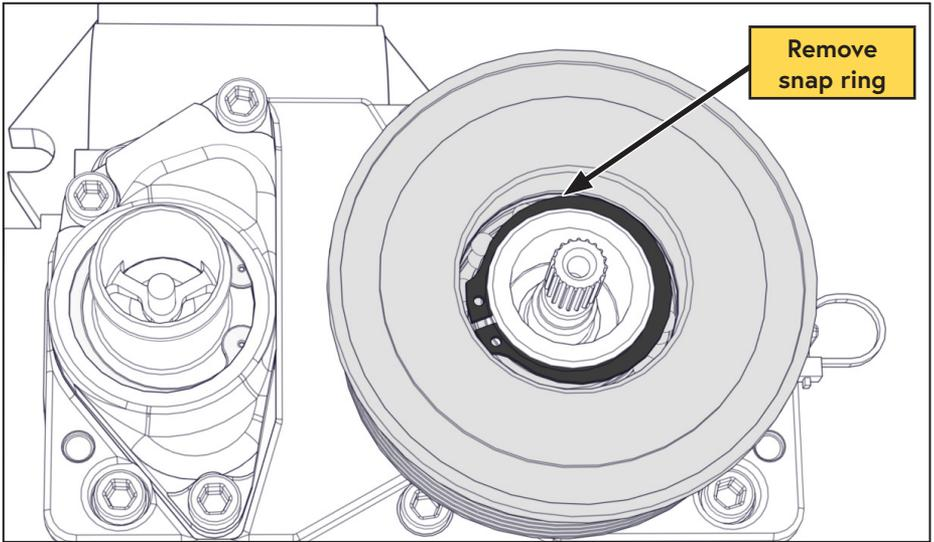

Figure 5 — Remove upper snap ring
- Remove the upper snap ring on the inside of the rotor assembly (Figure 5).